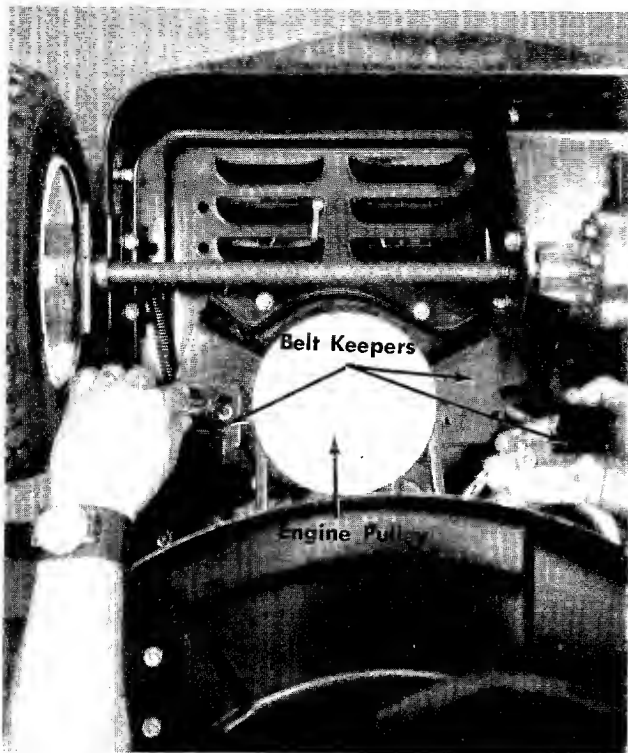

FIGURE 16. REMOVAL OF BELT KEEPERS
- Step 2. Remove two belt keepers at the engine pulley. See figure 16.